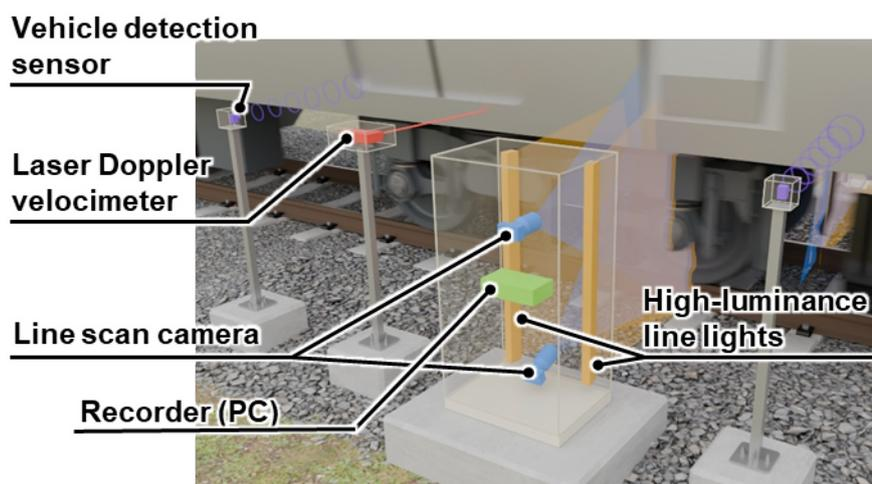

Figure 1 Conceptual layout of the imaging device
- The imaging device consists of a line scan camera, high-luminance line lights, a laser Doppler velocimeter, a vehicle detection sensor, and other components (Figure 1), and it can capture and store high-resolution images of the underbody of passing vehicles outdoors, regardless of the time of day or weather conditions.
- This system utilizes Artificial Intelligence (AI) in its diagnostic algorithm and employs a learning method developed to be robust against external disturbances such as sunlight and wetting by rain at the inspection points.
By installing the imaging device (Figure 2) at the entrance of the depot, side views of the underbody are captured as trains enter the depot. In this system, the line scan camera captures images while the laser Doppler velocimeter measures the passing speed of the vehicle (Figure 1), thereby providing continuous images (Figure 3).